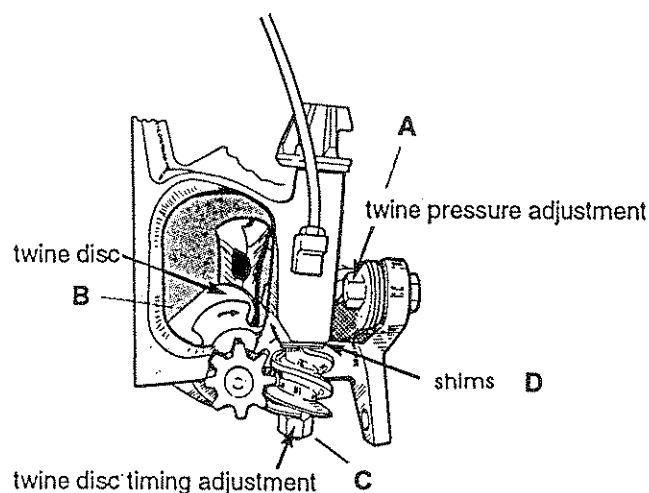

Fig. 28
The twine holder holds the twine in the twine disc while the bale is being made and tied. The pressure is regulated by bolt (A), see **Fig. 28**.
2. Adjust the twine disc notch so the left hand side of the notch is even with the cleaner (B), see **Fig. 28**. Do this by loosening nut (C) several turns. Tap the nut end of the shaft to loosen the worm.
3. After the disc is set, turn the worm against the spacer washers (D), see **Fig. 28**, and tighten the nut.